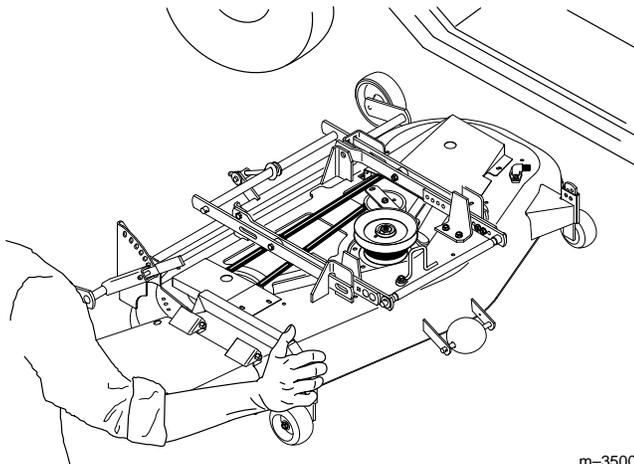

Figure 7
- After the two J-pins are seated through the mower's mounting brackets, using the attachment lift and your hand on the right front adjustable mower wheel bracket (Fig. 7), position the mower so its attachment bar fits into the mid Attach-A-Matic™ mount.